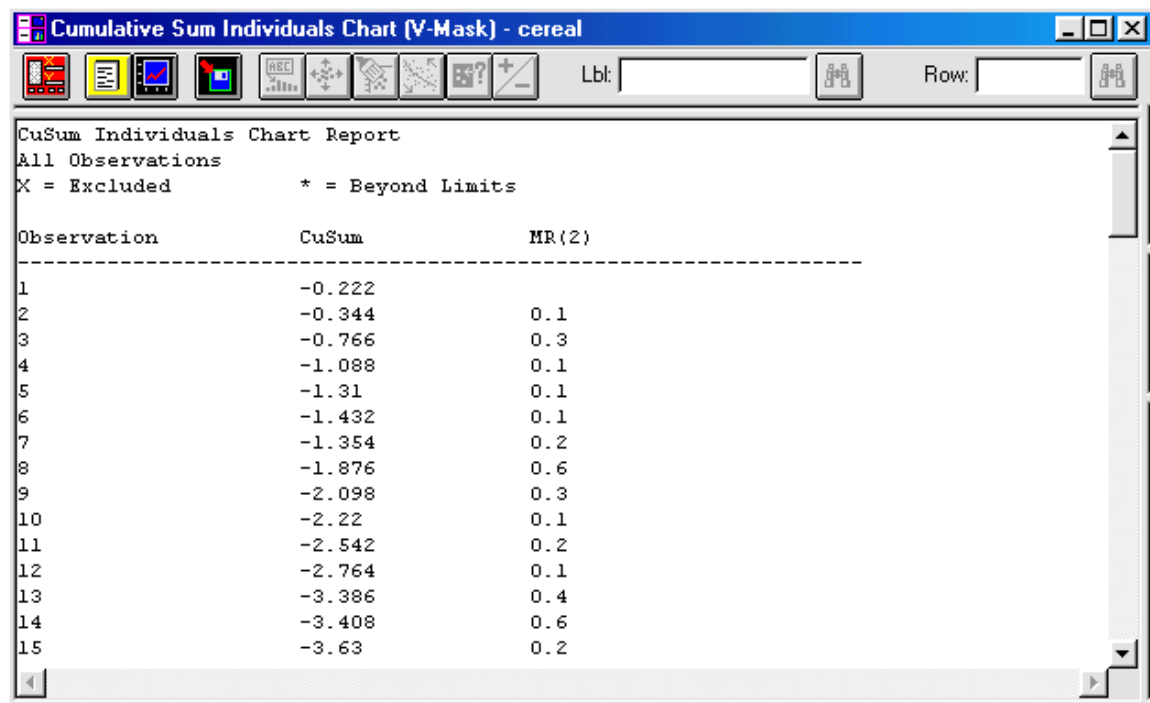

Figure 5-63. CuSum Individuals Chart Report
The CuSum Individuals Chart Report option creates a report of the observations based on your selection on the CuSum Individuals Chart Report Options dialog box (see Figure 5-63). The report shows the values that are plotted on the control chart, including values for the CuSum and MR(2). It notes points that are beyond the control limits with an asterisk, and points that are excluded with an X. You can create a report that displays all the observations; observations beyond the control limits, CuSum values beyond the limits, MR(2) values beyond the limits, or observations that were excluded.